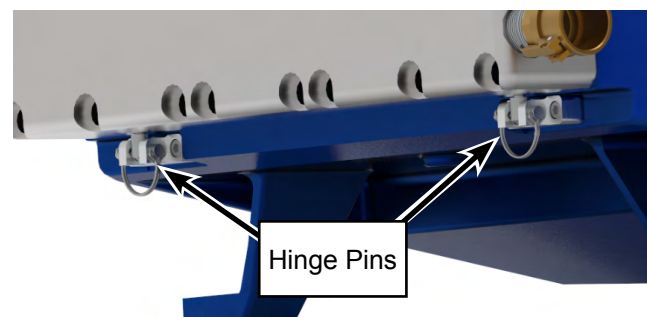

Figure 43: Install Hinge Pins.
- c. Install the hinge pins (Figure 43). It may be necessary to either lift the manifold or use a prybar while simultaneously tapping the end of the pins with a hammer to get the hinge pin pass through the hole in the hinge block. Check for correct alignment and free rotation of the manifold bolts.